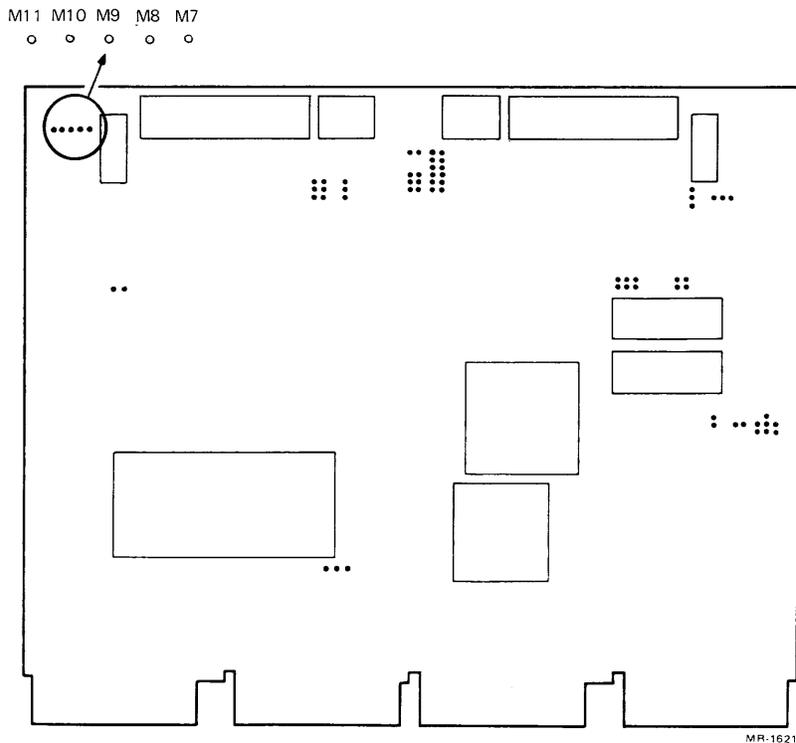

Figure 2-7 DMA Requests
DMA requests to the on-board DMA transfer controller (DTC) may come from several sources. The KXJ11-CA has a set of jumpers that enable or disable DMA requests from: (1) the SLU2 channel A receiver, (2) the SLU2 channel A transmitter, or (3) the on-board 8036 PIO counter/timer. The location of these jumpers is shown in Figure 2-7. Only two of the three sources may be specified (jumped) at one time. The two sources that are jumped as part of the factory configuration are SLU2 channel A receiver and SLU2 channel A transmitter.